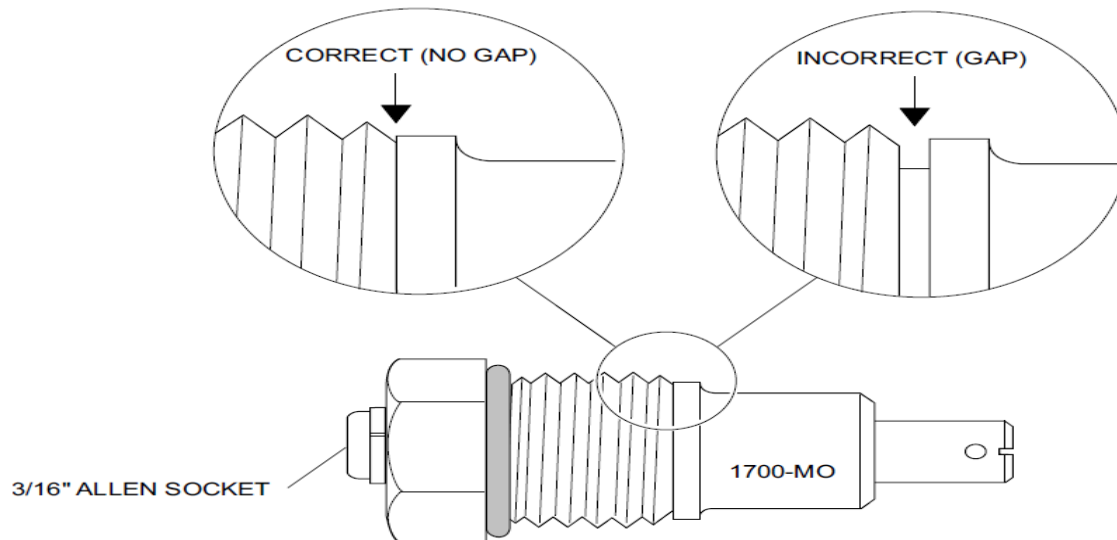

Figure 4: Manual Override Vent Tool
- s. Ensure that the valve stem on the manual override tool is fully retracted prior to insertion. This is performed by turning the stem on the override valve counter-clockwise with a 3/16" Allen (hex socket) wrench until no gap exists between the fitting threads and flange. Figure 4.